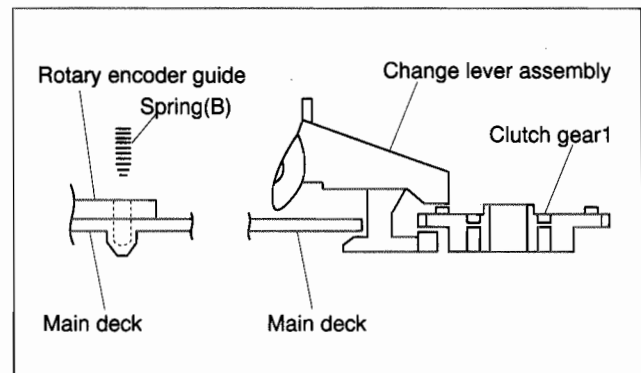

Fig. 2-2-24
- (2) Let the spring (B) drops into the rotary encoder guide hole and install the change lever assembly. (Take care not to mistake a direction of the spring.) The point is to slightly lift the clutch gear1 and catch it from the both sides with the assembly. (See Fig.2-2-24.)